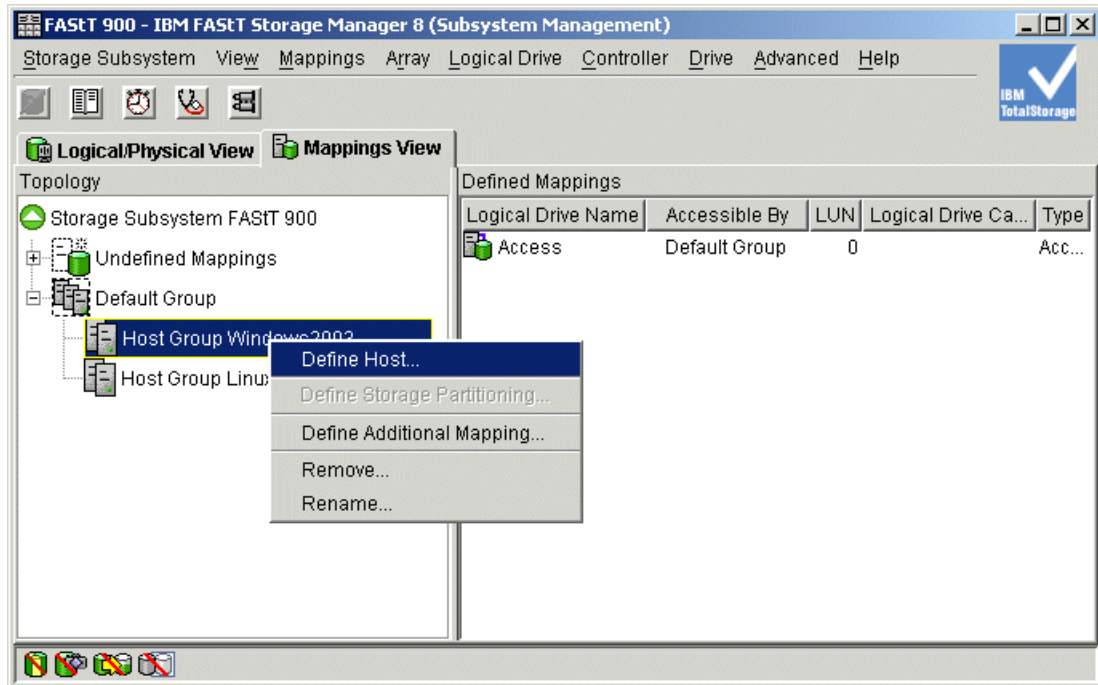

Figure 5-35 Selecting Define Host
- The hosts groups are defined and the hosts in these groups can now be defined according to the example in Table 5-1 on page 141. As shown in Figure 5-35 on page 153, highlight the group for which you want to add a new host. Right-click and choose **Define Host**.